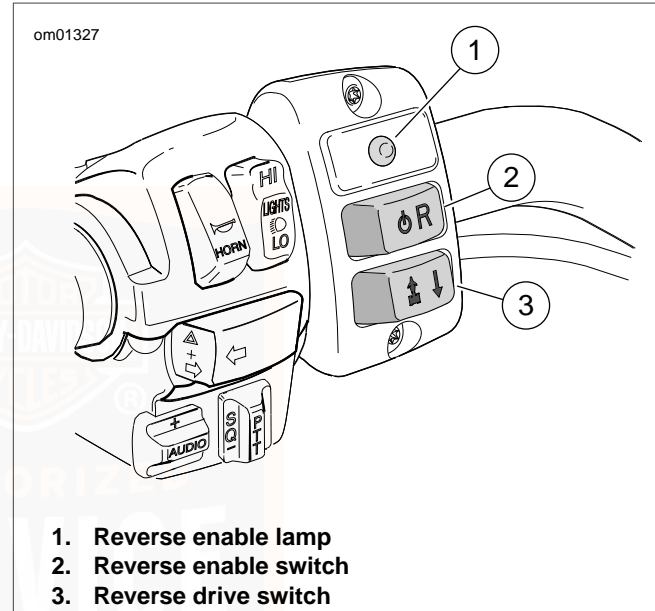

Figure 24. Reverse Controls (FLHTCUTG shown)
2. See Figure 24. With the vehicle started and in neutral, press the reverse enable switch (2) in the left hand control group. The yellow reverse enable lamp (1) will light.
3. Press and hold the reverse drive switch (3) to operate the electric reverse motor.